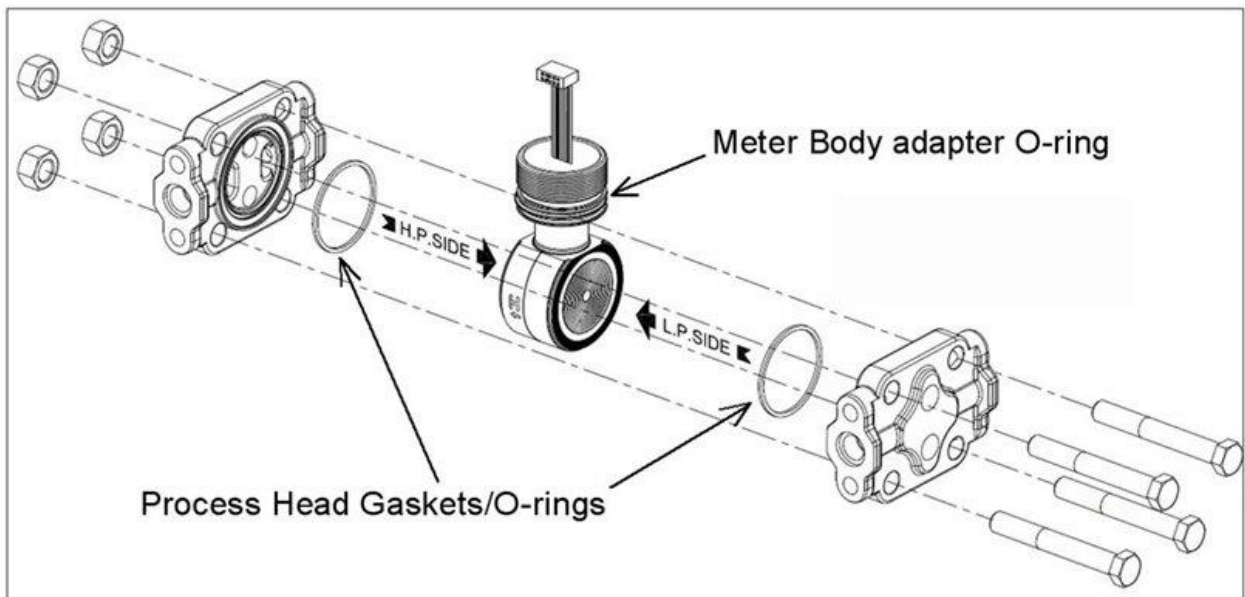

Figure 24 – Meter Body Reassembly
15. Refer to Figure 24. Apply Parker Super O-Lube O-Ring lubricant to the meter body adapter O-ring and carefully assemble the O-ring to the meter body. Assemble the process head(s) and bolts to the new meter body. For now, make the bolts only finger-tight.